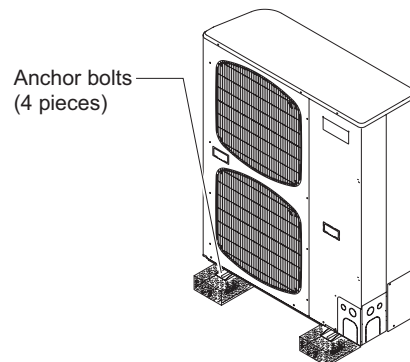

Fig. 1-8
- provide a solid base (concrete block, 4"×16" beams or equal), a minimum of 6" above ground level to reduce humidity and protect the unit against possible water damage and decreased service life. (Fig. 1-8)